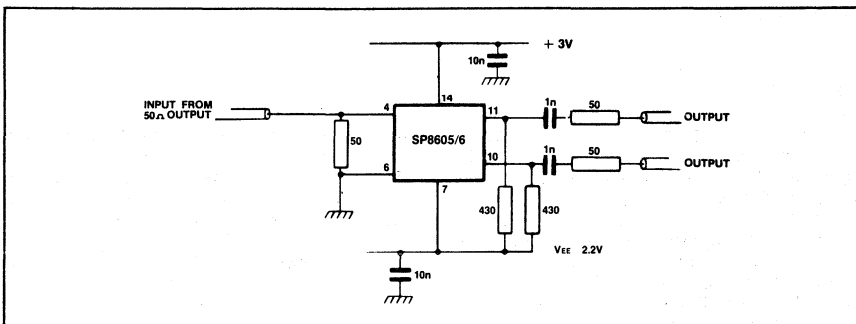

Fig.6 Circuit for using the input signal about ground potential
6. These devices may be used with split supply lines and earth referenced input using the circuit shown in Fig. 6.